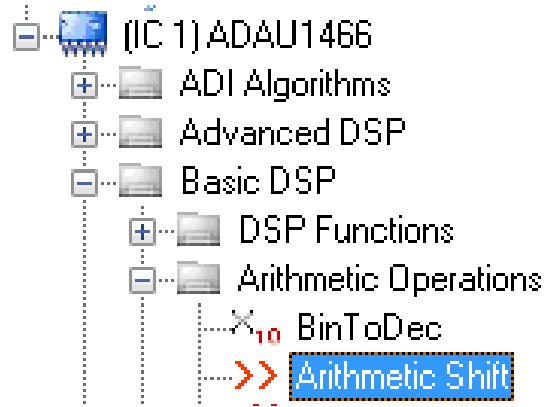

Figure 57. Arithmetic Shift Block Selection
- a. From the **Basic DSP > Arithmetic Operations** folder, click **Arithmetic Shift** (see Figure 57) and drag it into the project space to the right of the toolbox.